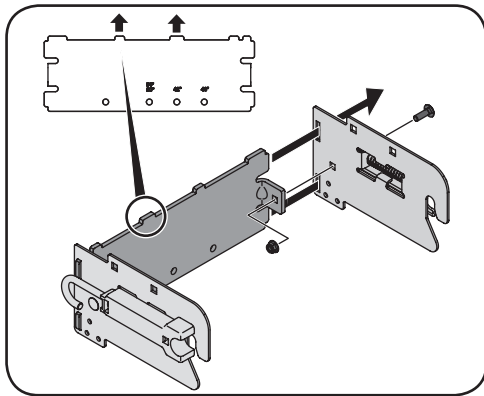

Figure 4-1
1. Insert the ends of the rear support bracket through the narrow slots at the rear of each side support bracket. See Figure 4-1.
2. Secure folded tabs on rear support bracket to side support brackets with a carriage screw (ref. #7) and nylon lock nut (ref. #9). See Figure 4-1.
**NOTE:** The latches on the side support brackets must be positioned with the opening facing down on the outside of the bracket and the tabs on the rear support bracket must be facing up. See inset in Figure 4-1.